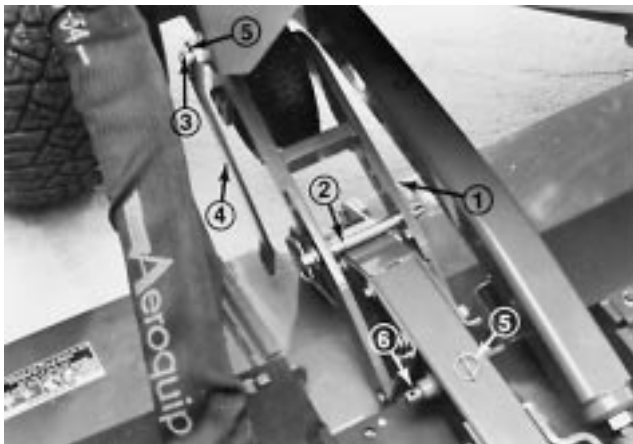

Figure 59
3. Remove hairpin crotters and clevis pins from the (2) rear castor assemblies (Fig. 58). Set the left hand clevis pin aside and insert the right hand clevis pin into the most forward holes in the castor wheel arm on the right side of the unit (Fig. 59). The castor arm and pin should be resting on top of the unit.
5. Fit deck tilt link over weldment on the right side of traction unit and secure with klik pin. Position link so it clears when cutting unit is raised. Keep remaining klik pin handy to secure opposite end of link to cutting unit arm weldment (Fig. 59).